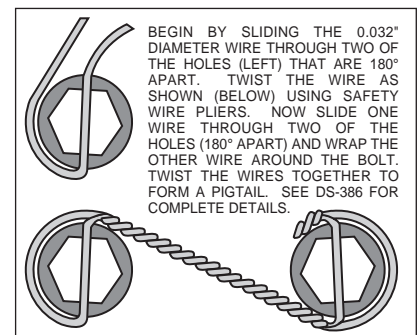

Figure 4. Safety Wire Diagram
- Mount bracket (6) to the backside of the spindle/hub assembly using bolts (11), lock washer (12) and flat washer (13).
- With the larger I.D. side of the rotor (14) facing away from the hat (15), bolt rotor (14) to hat (15) using washers (16) and bolts (17). Torque bolts (17) to 85 **in-lb**. Safety wire bolts (17) using standard 0.032 inch diameter stainless steel safety wire as shown in Figure 4. Please refer to Wilwood's data sheet DS-386 (available at www.wilwood.com/pdf/ds386.pdf) for complete safety wire installation instructions. Slip the rotor (14) and hat (15) combination onto the wheel studs and hold in place with three lugs nuts.
- Apply red *Loctite*® 271 to bolt threads (2) before mounting caliper to the caliper mounting bracket (1). **NOTE:** Be sure the heads of the 7/16-20 bracket (1) insert nuts are facing outward toward the wheel.
- NOTE:** Please reference the caution statement at the beginning of the assembly instructions. With the bleed screws pointing up, mount the caliper (5) to the caliper mounting bracket (1) using bolts (2), lockwasher (3) and flat washer (4). Torque bolts (2) to 47 ft-lb. Mount caliper bracket combination to the spindle bracket (6) using bolts (7) and lock washer (8) while placing a shim washer (9) and spacer (10) between the two brackets (1 and 6). Finger tighten only at this time.
- View the rotor (14) through the top opening of the caliper (5). The rotor (14) should be aligned in the center of the caliper (5). If not, adjust the caliper (5) by using 0.032 inch thick shims (9) placed between the caliper mounting bracket (1) and the spindle bracket (6). Finger tighten and recheck alignment. Apply red *Loctite*® 271 to bolt threads (11) and torque to 47 ft-lb. Safety wire caliper bolts (2), see Figure 4.
- Remove the bridge bolt from the caliper (5) and install the disc brake pads (17). Reinstall the caliper bridge bolt.